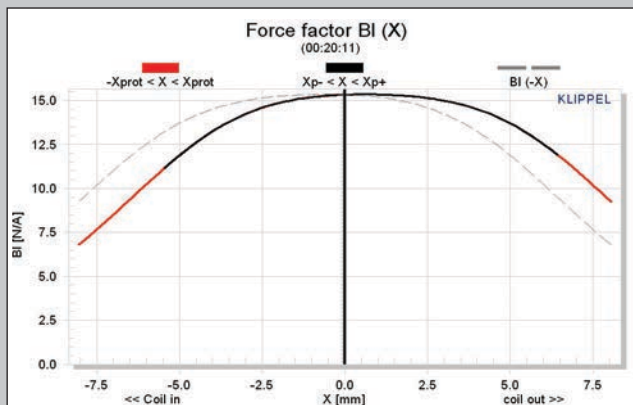

Figure 6: Klippel analyzer BI (X) curve for the B&C 12FHx76
Klippel analysis for the B&C 12FHX76 (Klippel GmbH provided the analyzer and Pat Turnmire, Red Rock Acoustics performed the analysis), produced the BI(X), $K_{MS}(X)$ and BI and K_{MS} symmetry range plots shown in **Figures 6–9**. (If you don't own a Klippel analyzer and would like to have analysis done on a particular driver project, Red Rock Acoustics can provide Klippel analysis of almost any driver. For contact information, visit www.redrockacoustics.com.)
The 12FHX76 woofer's BI(X) curve is moderately broad and mostly symmetrical with some offset (see **Figure 6**). The BI symmetry plot has a small 0.63-mm